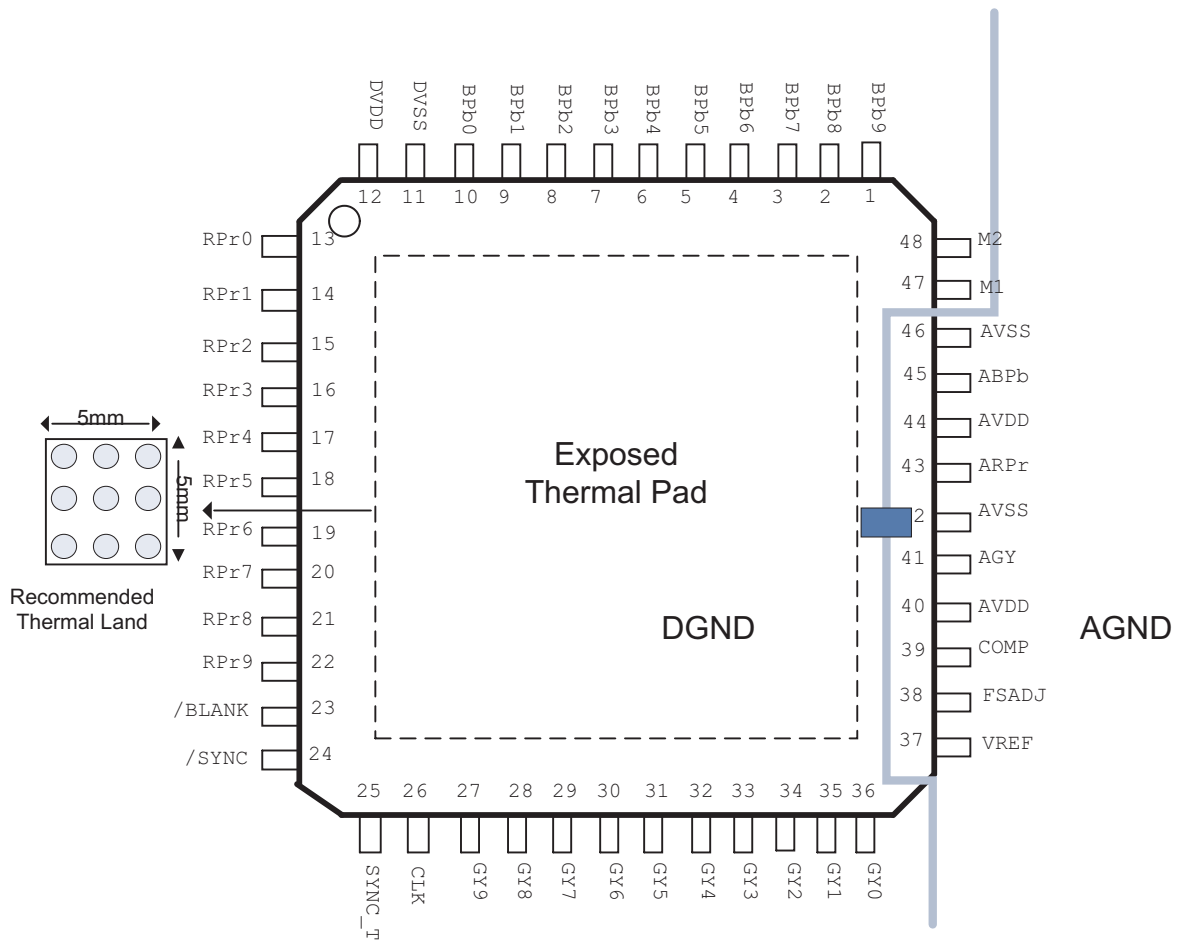

Figure 1. Recommended Split Between GND Planes
- See Figure 1 for recommended GND split when split planes are used.